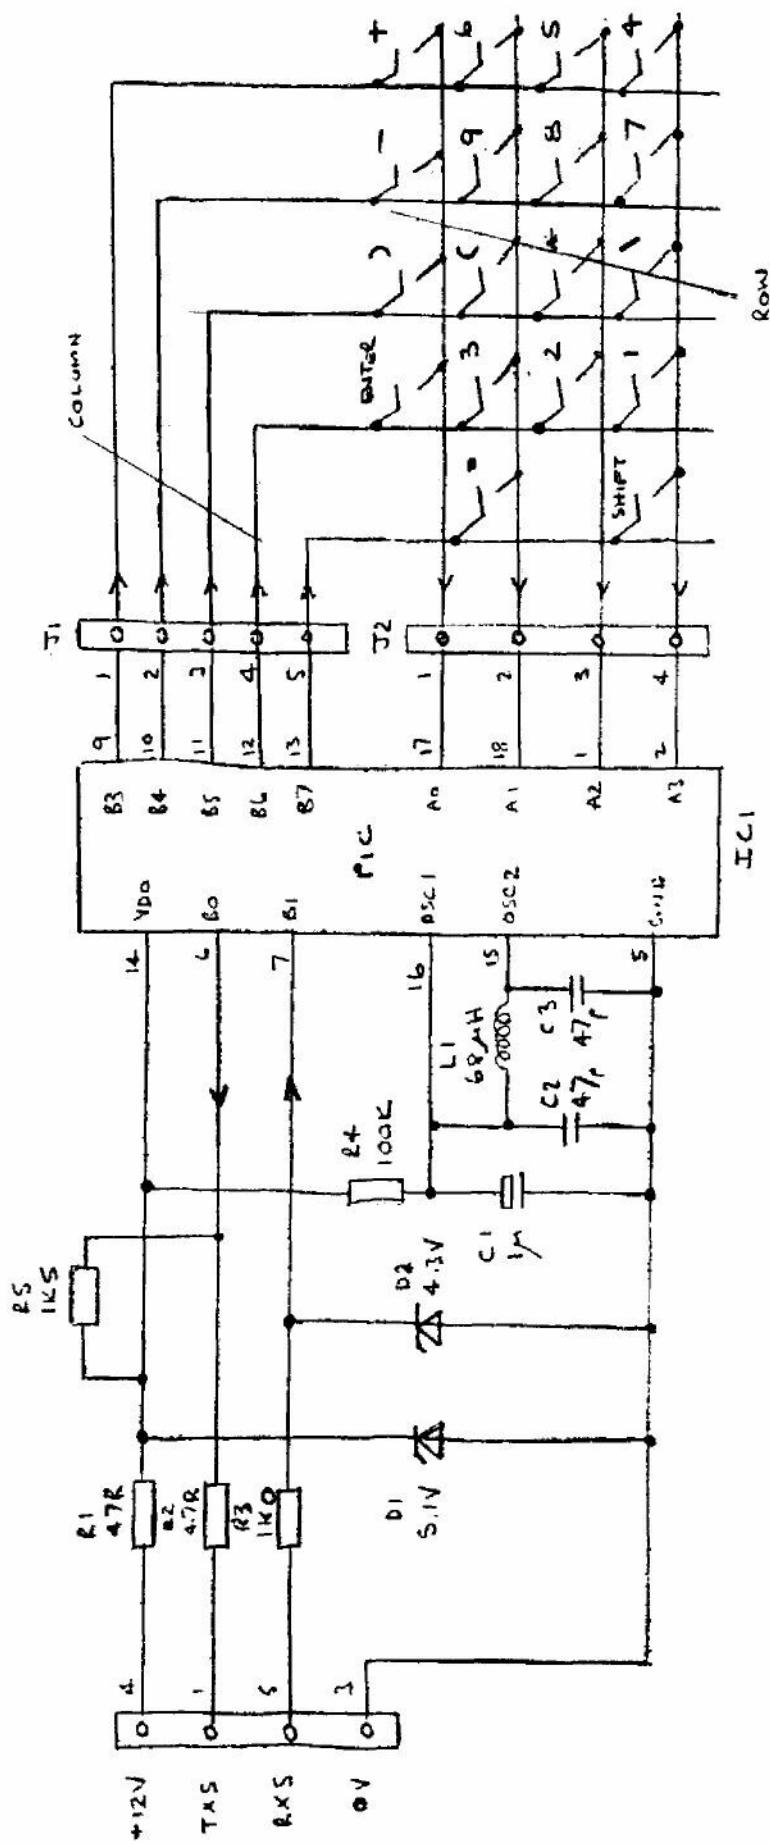

Fig. 1.7 Keypad circuit
- 5.8.1 The keypad (Figure 1.7) **comprises** a 5 x 4 switch matrix and a peripheral interface controller (PIC) with **on-chip** program and **scratchpad** memories. The PIC operates from a +5V rail derived by a simple stabiliser from the +12V Spectrum supply, and is clocked from an external LC network. The nominal **clock frequency** is 2.556 MHz but may vary between 1.278 MHz and 3.835 MHz dependent on component **tolerances**. The master clear input (MCLR) is active for a period after power-up or if the +12V supply is **temporarily** disconnected.